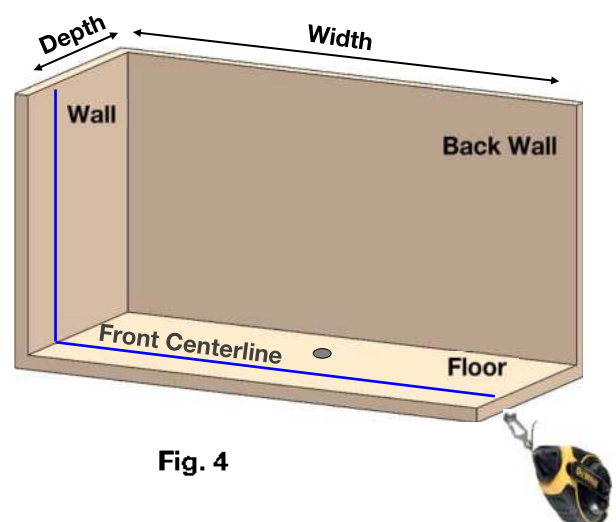

Fig. 4
- Set the laser at the front centerline. Place the chalk line over the laser, mark wall and floor. The chalk line will be used as a guide to set front extrusions. **Fig. 4** If chalk can not be used to mark wall and floor, use a laser device.